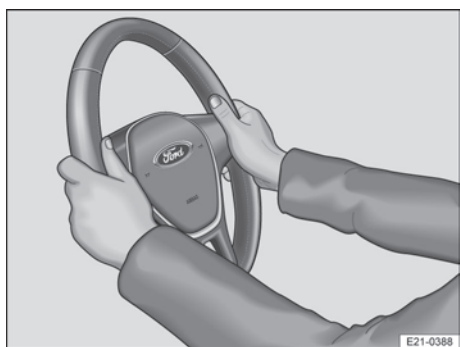

Fig. 59 On the steering wheel: 9 o'clock and 3 o'clock position.
2. Adjust the steering wheel so that you can hold it with both hands at its circumference at the 9 o'clock and 3 o'clock positions with your arms slightly bent → Fig. 59.